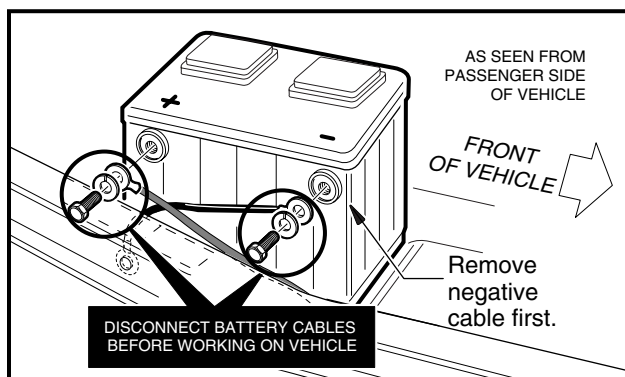

Figure 1 Battery Cable Removal
- **Disconnect battery cables, negative (–) cable first (Figure 1, Page 7).**